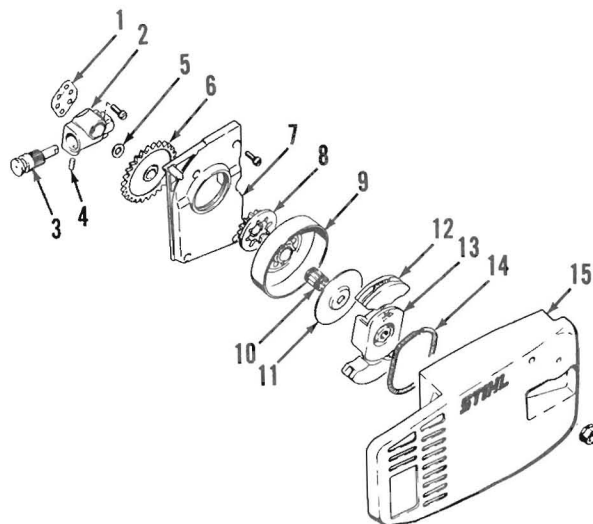
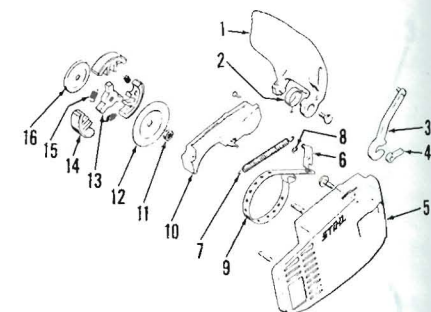

Fig. ST7—Exploded view of clutch assembly and chain oiler pump.
Fig. ST8—Exploded view of chain brake and clutch assembly used on some models.
CLUTCH. Models without chain brake are equipped with the two-shoe centrifugal type clutch shown in Fig. ST7. Models with chain brake are equipped with the three-shoe type clutch shown in Fig. ST8.
On models without chain brake, be sure rear guide washer (11—Fig. ST7) is installed with raised inner diameter facing away from clutch drum. Tighten clutch hub to 25 N·m (18 ft.-lbs.).
On models with chain brake, flanged edge of rear guide washer (16—Fig. ST8) should face the crankcase. One side of threaded hole in clutch hub (13) is counterbored to a depth of approximately 2 mm (0.080 in.) and this side must face the crankcase. Tighten clutch hub to 25 N·m (18 ft.-lbs.). Install front guide washer (12) so raised inner diameter faces clutch hub. Tighten locking nut (11) to 30 N·m (22 ft.-lbs.).
OIL PUMP. All models are equipped with a plunger type automatic chain oil pump. Oil pump is driven by the clutch through gear (8—Fig. ST7) that engages with the clutch drum. The oil pump operates only when clutch drum is turning. A worm attached to driven gear (6) turns pump plunger (3). The plunger reciprocates in pump housing as the cam groove in end of plunger rides against pin (4).
signed to stop chain movement should kickback occur. The chain brake is activated when the operator's hand strikes hand guard (1—Fig. ST8), thereby allowing brake lever (3) to release spring (7) that draws brake band (9) tight around clutch drum to stop chain. Pull back hand guard to reset brake mechanism. No adjustment of chain brake is required.